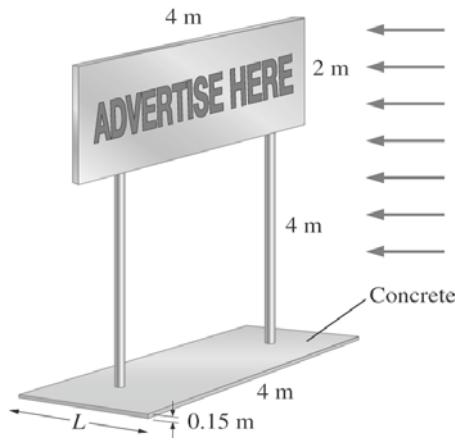

Figure Q3[a]
- Q3. [a]** A 2m high, 4m wide rectangular advertisement panel is attached to a 4m wide, 0.15m high rectangular concrete block ($\text{density} = 2300 \text{ kg/m}^3$) by two 5cm diameter and 4m high (exposed part) poles as shown in Figure Q3[a]. If the sign is to withstand 150km/h winds from any direction,